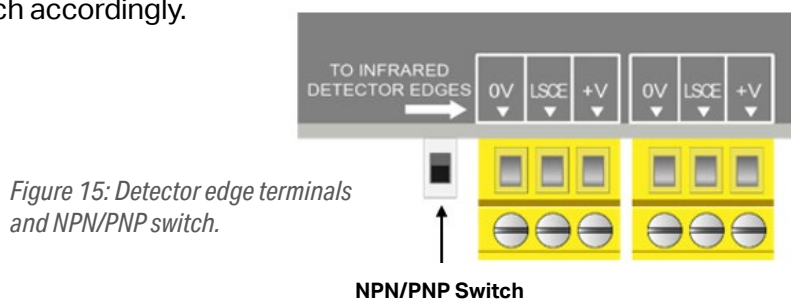

Figure 15: Detector edge terminals and NPN/PNP switch.
2. Set Par. 202 = 1 for NPN type and ensure that the NPN/PNP switch is set to NPN. See Figure 15 above.